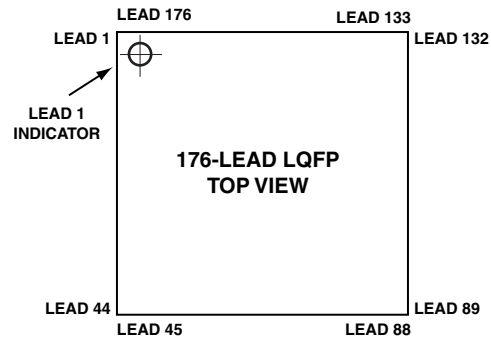
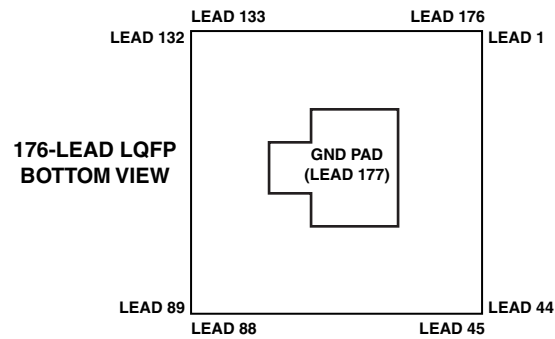

Figure 67. 176-Lead LQFP Lead Configuration (Top View)
Figure 68. 176-Lead LQFP Lead Configuration (Bottom View)
* Pin no. 177 is the GND supply (see Figure 68) for the processor; this pad **must** connect to GND.
Figure 67 shows the top view of the 176-lead LQFP lead configuration and Figure 68 shows the bottom view of the 176-lead LQFP lead configuration.